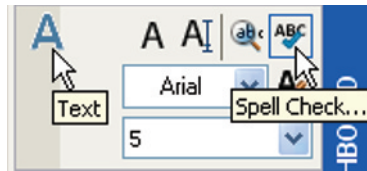

Fig. 6.39 The **Spell Check...** icon in the **Text** control panel
2. Either *click* the **Spell Check...** icon in the **Text** control panel (Fig. 6.39) or *enter* **spell** or **sp** at the command line.